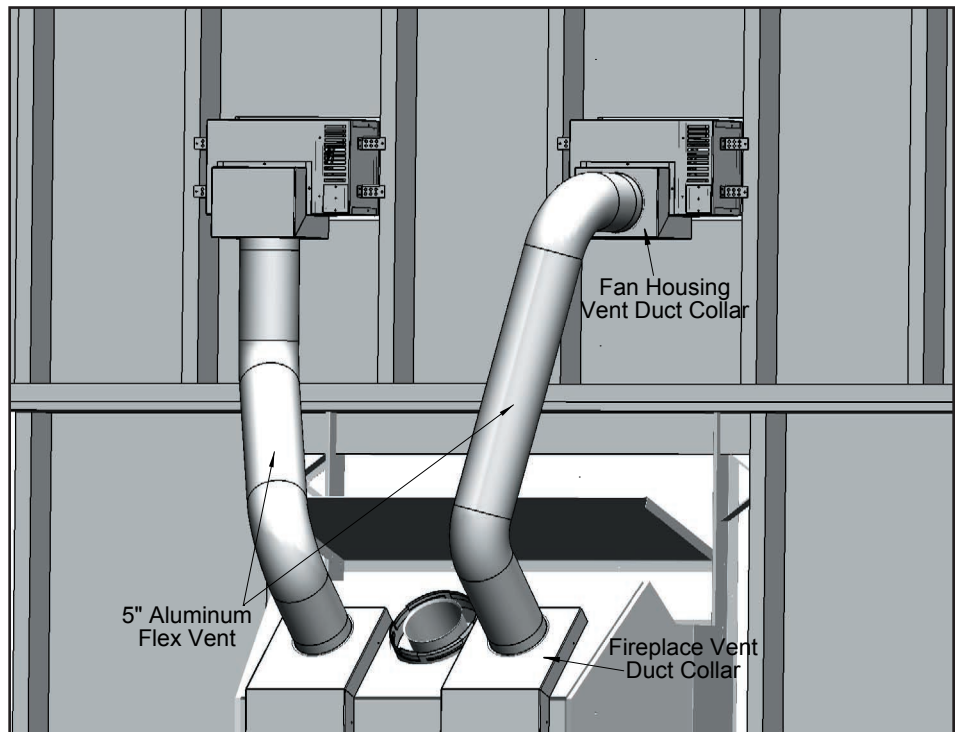

Figure 10: Optional install with two (2) heat distribution kits.
8. Attach the 5" Aluminum Flex Vent to the Fireplace Vent Duct Collar with sheet metal screws or a vent strap and run the vent to the Fan Housing Vent Duct Collar. The Fan Housing Vent Duct can be installed through the rear or the bottom of the Fan Housing as shown in Figure 10.